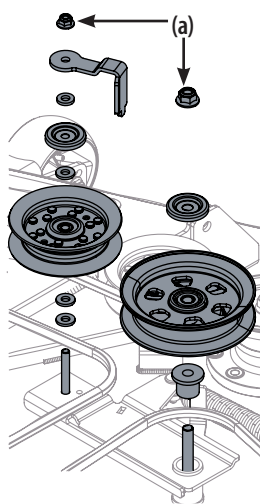

Figure 56
4. Remove the two idler pulley assemblies by removing the flange lock nuts (a) at the top of the assemblies, then removing the assemblies from the idler arm. See Figure 56.